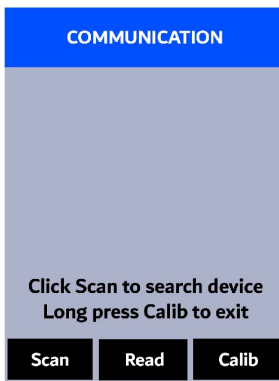

Figure 17.
3. Press **Comm** (**>**) to launch the **COMMUNICATION** screen (Figure 17).